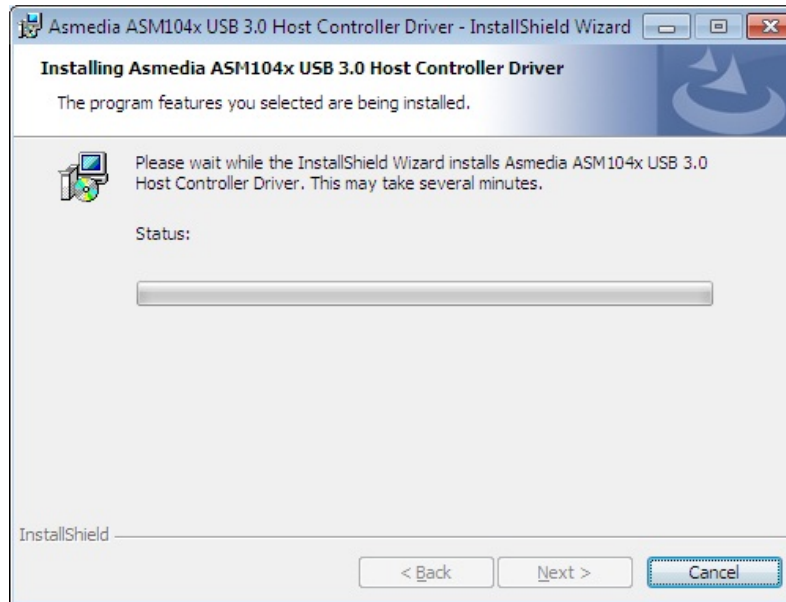

Figure 6-23: USB 3.0 Driver Setup Operations
Step 9: The installation progress can be monitored in the progress bar shown in **Figure 6-23**.